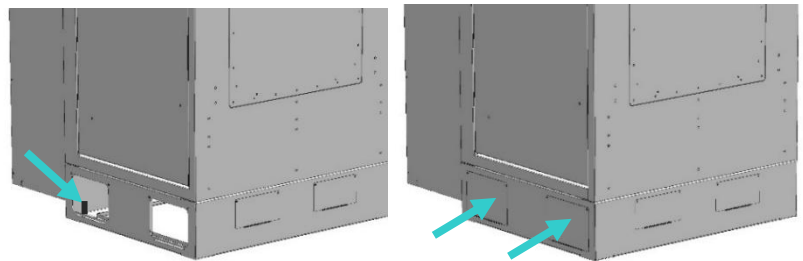

Figure 20 – Tighten washer-nut sets over wedge anchors and then re-attach all lower panels
17. Secure charger to concrete using the eight M12 wedge anchors installed and 8 washers and nuts that came with the wedge anchors. Tighten nut down using a torque setting of 780 ± 10 in-lbs (90 ± 10 N-m) (Figure 20).
18. Re-attach all lower access panels to the bottom of the charger using their original screws (Figure 20).